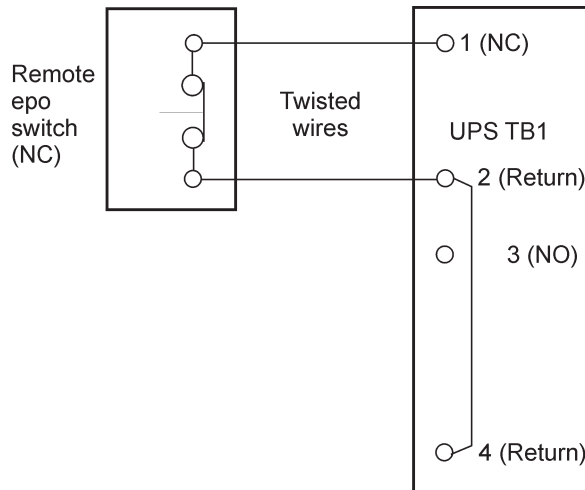
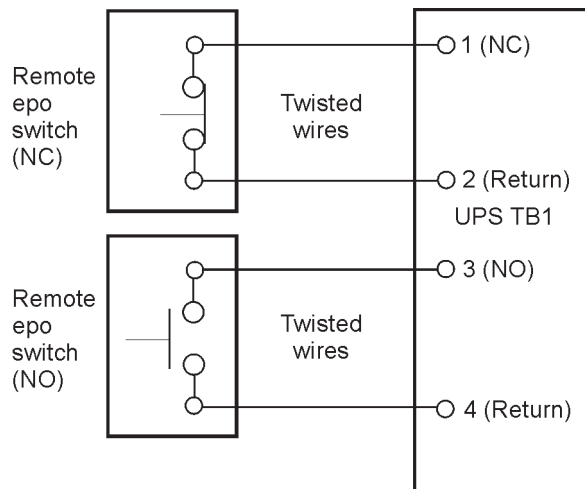

Figure 4-15. Normally-closed remote EPO switch wiring
Figure 4-16. Normally closed and normally open remote EPO switch wiring
10. Remove the UPS cabinet interface entry plates to drill or punch holes (see Figure 4-15 on page 68).
Figure 4-15 and Figure 4-16 show alternative methods of connecting a remote EPO switch if using another manufacturer's switch.